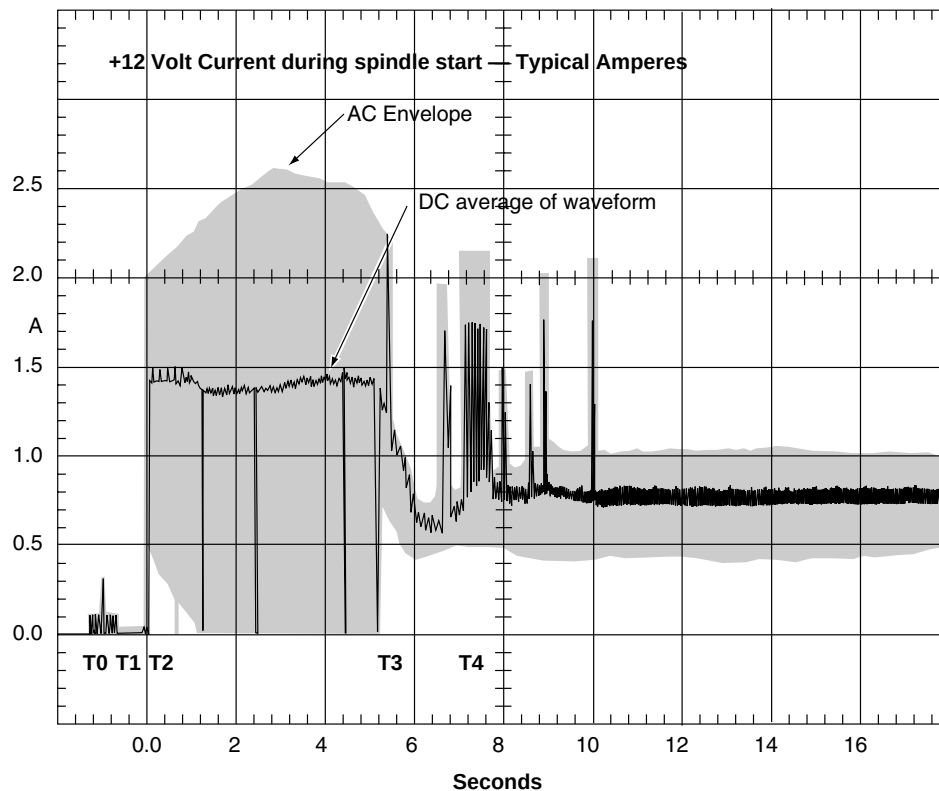

Figure 3. Typical ST336752 drive +12 V current profile
- [3] See +12 V current profile in Figure 3.
Figure 3 identifies the drive +12 V current profile. The current during the various times is as shown: